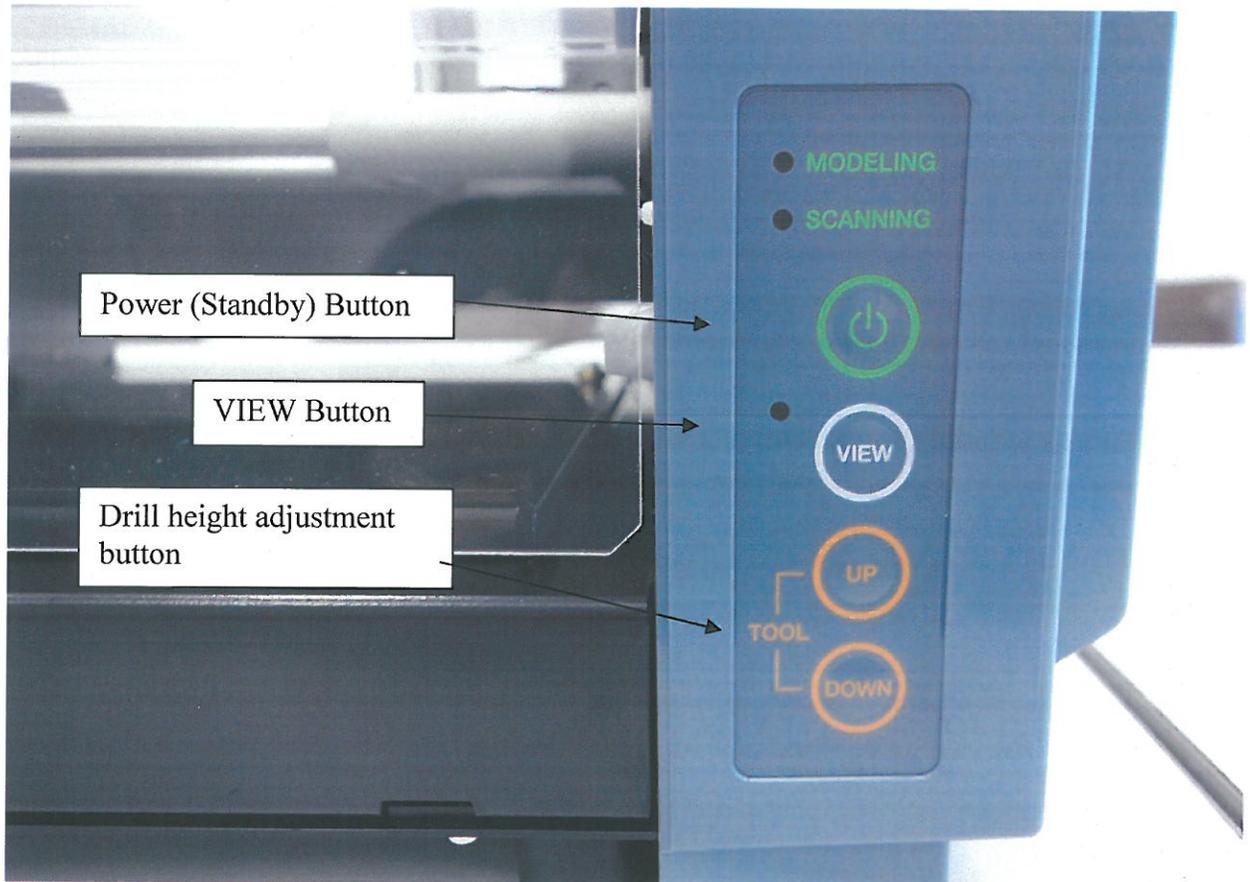

Figure 5: Machine Controls
- Turn the machine on by pressing the **POWER (STANDBY)** button (Figure 5).